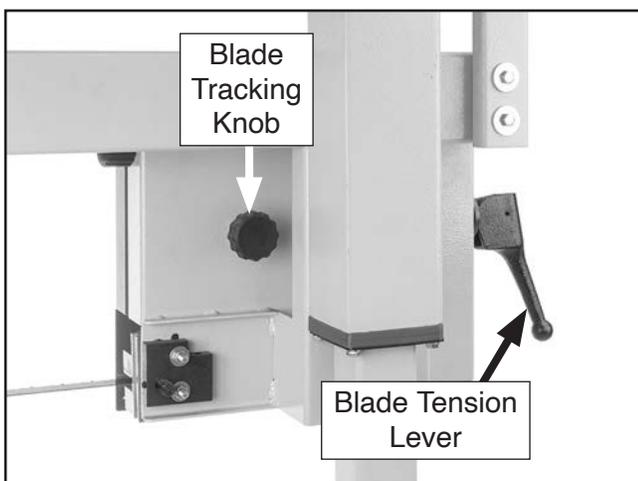

Figure 71. Location of blade tension lever and blade tracking knob.
3. Turn blade tension lever counterclockwise one full turn (see **Figure 71**).
4. Loosen jam nut on blade tracking knob (see **Figure 71**), then turn blade tracking knob to adjust tracking.
2. Loosen support bearing adjustment screw on blade guide (see **Figure 71**) so you can slide bearing forward and backward.